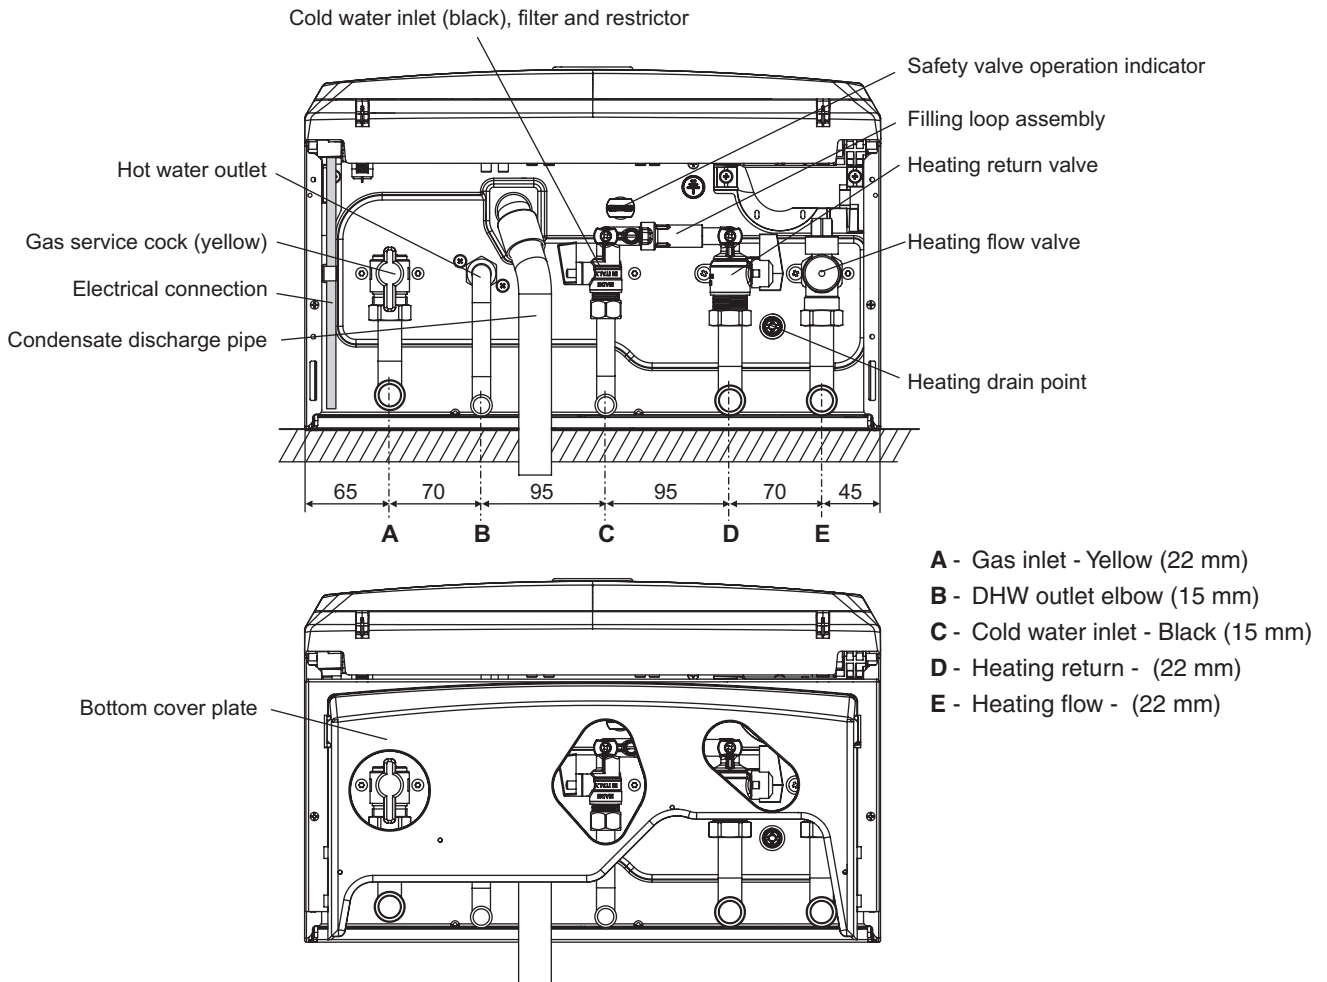

Fig. 4.4
4.5 CONNECT THE PIPEWORK - Fig. 4.4
2. Fit the valves to the boiler connections as shown in Fig. 4.4 - note the colours of the operating levers.
4. Connect the flexible condensate pipe to the rubber connector as shown in Fig. 4.4. Using the adaptor supplied, connect the flexible pipe to the condensate drain.